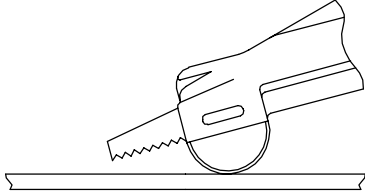

Figure 1
1. Hold the saw as shown in Figure 1 with the Saw Guide firmly against the material and the tip of the Blade above the material. Press the Trigger.